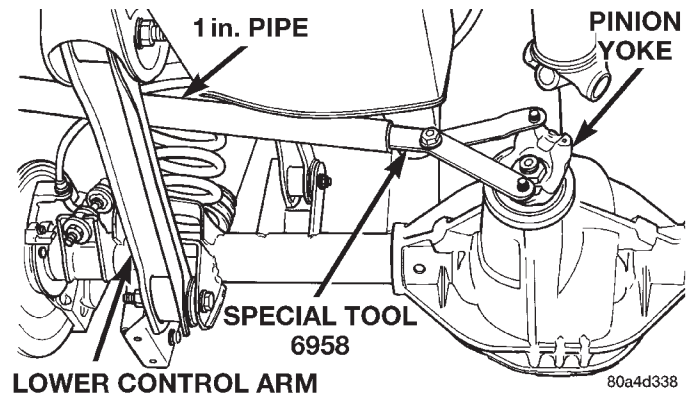

Fig. 9 Pinion Yoke Holder
(1) Raise and support the vehicle.
(2) Remove wheel and tire assemblies.
(3) Remove rear brake rotors and calipers. Refer to Group 5, Brakes, for proper procedures.
(4) Mark the propeller shaft and pinion yoke for installation reference.
(5) Remove the propeller shaft from the yoke.
(6) Rotate the pinion gear three or four times.
(7) Measure the amount of torque necessary to rotate the pinion gear with a (in. lbs.) dial-type torque wrench. Record the torque reading for installation reference.
(8) Using a short piece of pipe and Holder 6958 to hold the pinion yoke, remove the pinion nut and washer (Fig. 9).